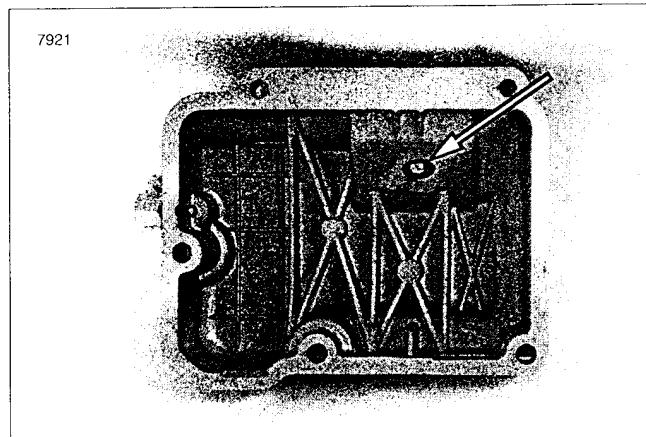

Figure 7-12. Neutral Switch Plunger
5. See Figure 7-12. If neutral switch was removed, it must be installed in the top cover with the transmission shifter in the NEUTRAL position to properly engage plunger on shifter cam. See 8.29 NEUTRAL SWITCH.
6. Connect vent hose (4) to vent hose fitting (5).